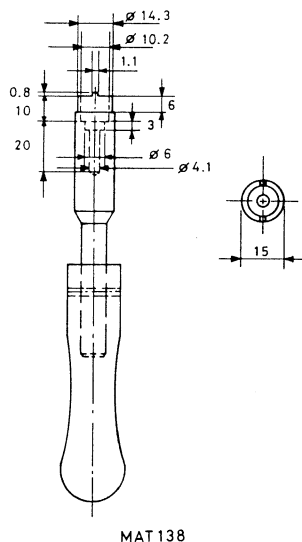

Fig. 26.5. Dimensional drawing of tool for BNC input sockets.
- The p.c.b. is mounted in its holder with four screws: before removing the p.c.b., the earth tags (four per BNC) of the BNC's must be unsoldered from the p.c.b.. Also the wire between the BNC signal tag and the bracket with the input capacitors must be unsoldered: this must be done very quickly and close to the BNC in order to avoid that the input capacitors get too hot. The BNC-socket can be separated from the bracket with a special tool that fits on the slotted nut of the BNC. This tool is available under service code number 5322 395 54023. For those who want to make this tool in a local workshop, a dimensional drawing is given in fig.26.5.